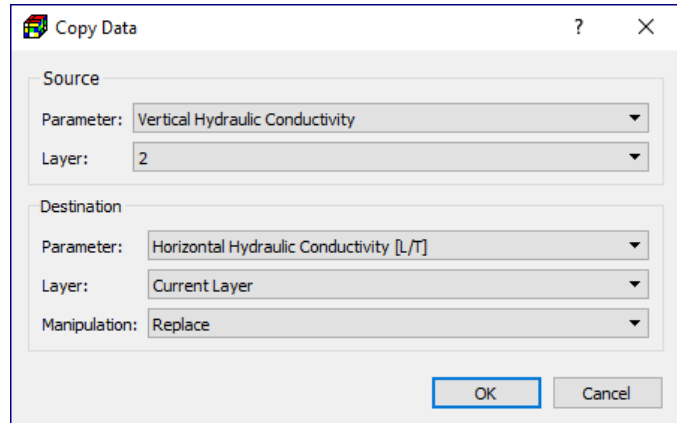

Figure 34. The Copy Data dialog box
5. **Copy:** Open the Copy Data dialog box (Figure 34) that allows you to copy cell values from the selected source to destination.